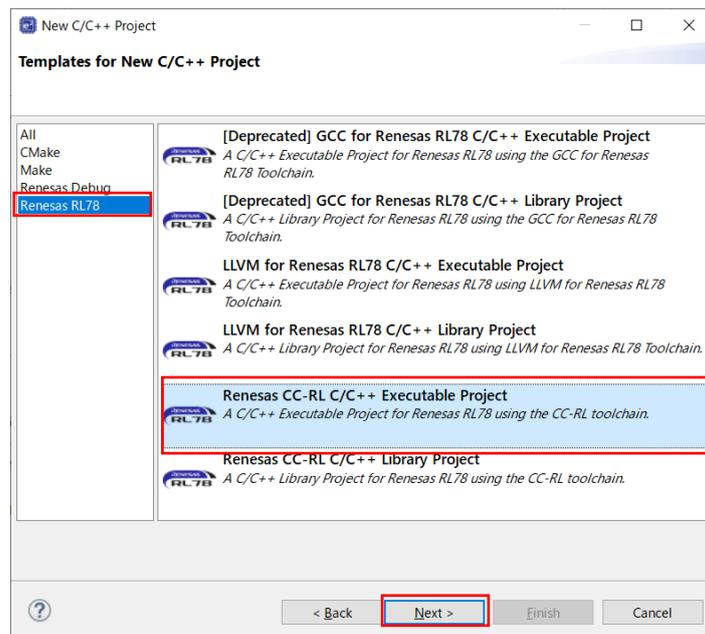

Figure 6-11. Select the CC-RL Compiler for the Tool Chain
- When using the CC-RL compiler, select [Renesas CC-RL C/C++ Executable Project] displayed after selection in [Renesas RL78], and press "Next" button (as shown in Figure 6-11).